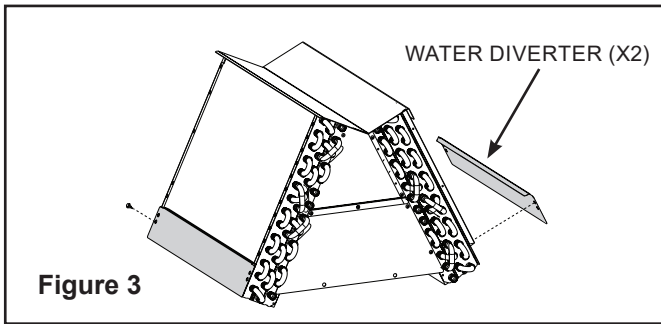

Figure 3
- On model 5TXCD010AS, installing the water diverter baffles is required for water management in downflow installations. Install the two outer water baffles closest to the drain pan using the provided 5/16" hex screws. See Figure 3.